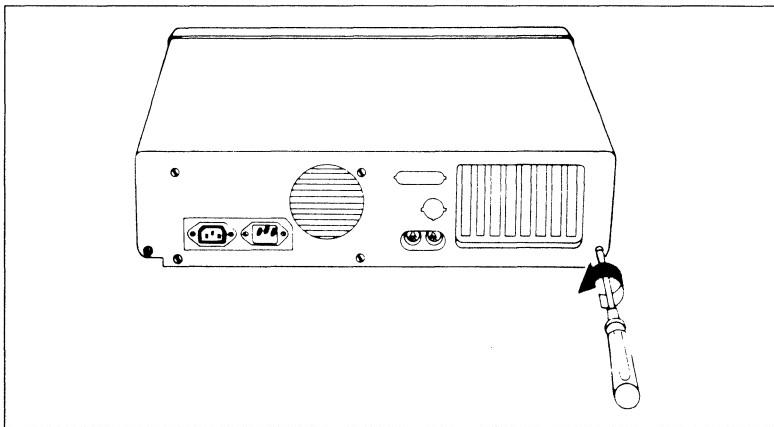

Figure B-2
9. Using either a flat blade screwdriver or 1/4" nutdriver, remove the cover mounting screws from the threaded tabs by turning them counterclockwise as shown in Figure B-2. (There will be two or five screws to remove, depending upon the model of PC.)